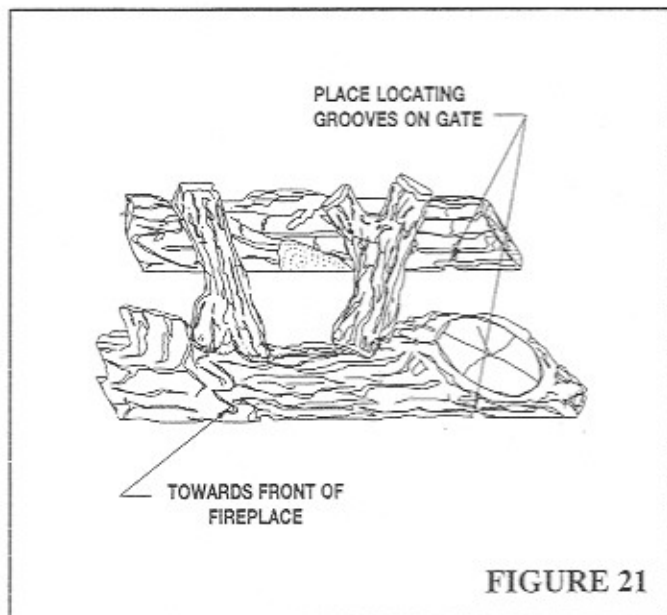

FIGURE 21
The Marco Custom 36 uses a standard custom four (4) piece log set. Placement has been marked on the front and back log to provide the exact location. See Figures 21 and 22 for proper placement.
The Marco Custom 36 four (4) piece log sets are provided with alignment slots to ensure proper spacing and location. Refer to Figure 21 and 22.
**STEP 1:** Locate back log by using grooves on the bottom. See Figure 21.